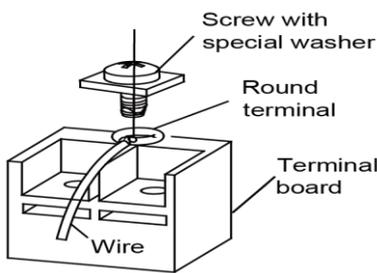

Figure 3-4-2
- 4) Position the round terminal wire, and replace and tighten the terminal screw with a screwdriver.(Figure 3-4-2)